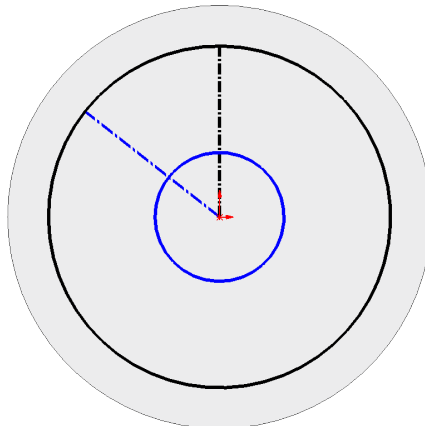

Fig. 14
**up to converted circle and centerline at angle**, **Fig. 14**.